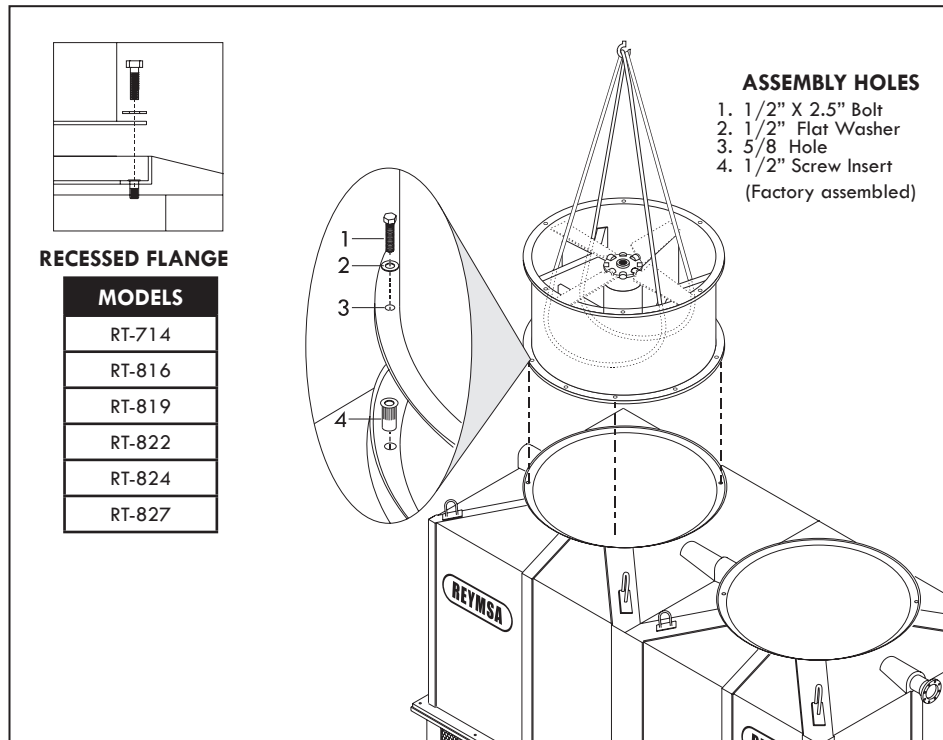

Figure A-21: Fan Duct assembly for a Double Fan Tower
- L. Then cradle/straddle the fan support with the straps (as shown in figure A-21) so you can lift the fan duct with a crane and assemble it.
- M. Identify each fan duct, they are labeled with a number on the inside of the lower edge. For a correct installation, this number must match the number on the distribution manifold of the corresponding body section. Now place fan duct 1 on the correspondent receiving flange on top of the Tower; make sure the bolt holes and the marks inside the fan duct and the receiving flange are aligned (Figure A-21 and A-22). Secure it with the stainless steel nut and bolt sets supplied by REYMSA.